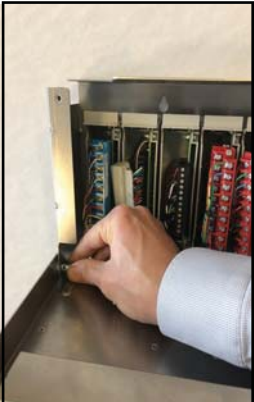

Figure 7a
a) Locate the two pins which are provided in the mounting hardware bag. Align the holes in the upper and lower mounting plates. Insert the pin in the holes on each side of the mounting plates. (See figures 7a and 7b)